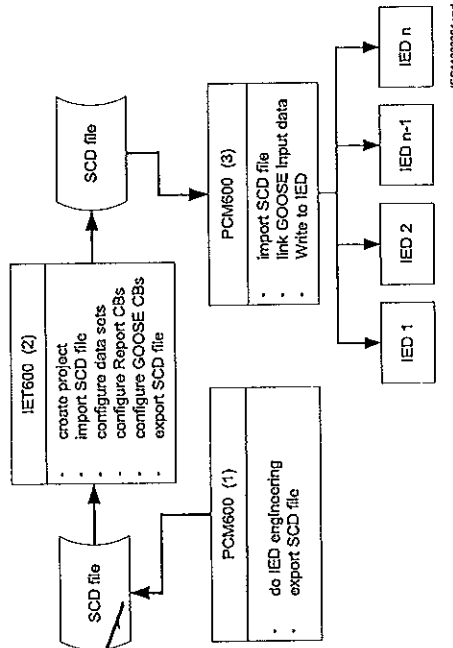

Figure 63: IEC 61850: Signal engineering procedure flow
A short form of a typical sequence is shown in Figure 63, when a complete station is exported as a SCD file.
1. Export SCL files from PCM600. In the scenario in Figure 63 it is a SCD file.
4. Import SCL files to PCM600 project. In the scenario in Figure 63 it is the updated SCD file.